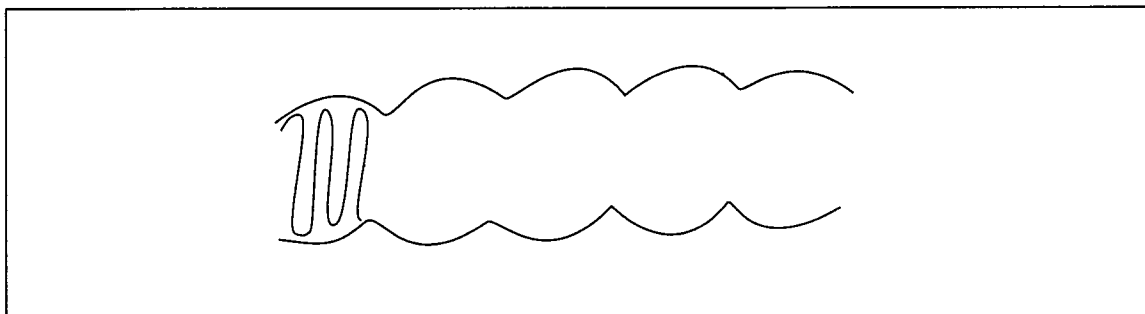

Figure 1 The Pin 52 Output Waveform
- Next, set the modulation frequency to 15 kHz with $\Delta f = \pm 20 \text{ kHz}$, and adjust the pin 52 output waveform AM modulation to be symmetrical from left to right. (See figure 1.)